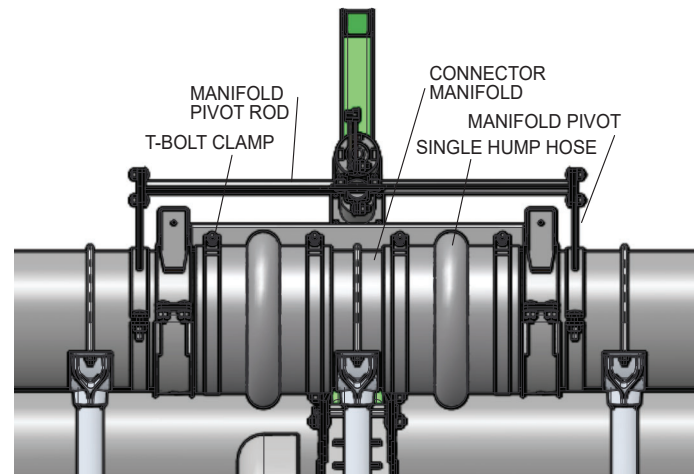
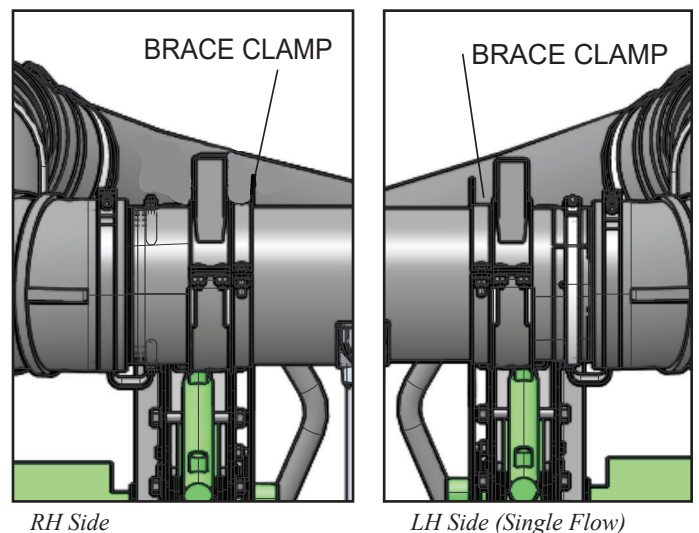
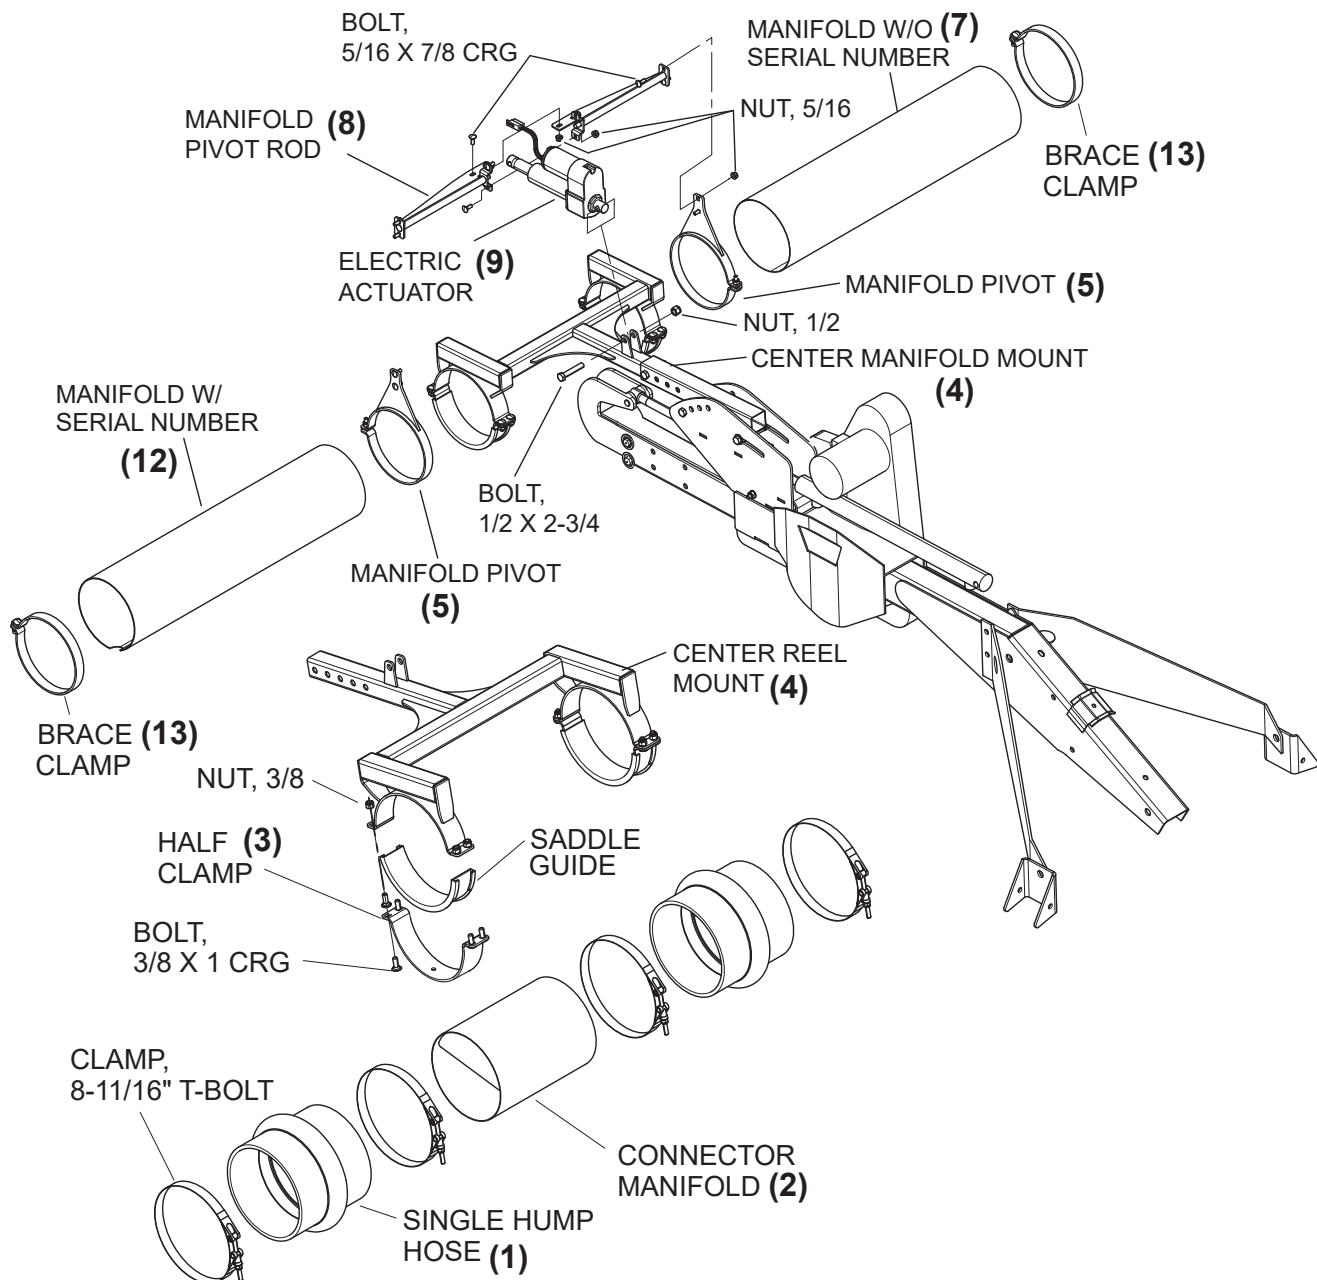

Figure 45: Manifold Assembly
Figure 46: Brace Clamps
Figure 48: Center manifold Assembly (FD1 & FD75 headers)
2. Loosely, install the half clamps (3) with 24 3/8" x 1" carriage bolts and nuts to all manifold mounts (4). (Figure 48)
3. Slide a manifold pivot (5) over the right end of the manifold with the serial number (12). Slide a manifold pivot (5) over the left end of the manifold without the serial number (7). (Figure 48)
4. Slide a brace clamp (13) over each end of the manifold. The brace clamps (13) should be positioned inside the reel mount assemblies (Figure 46). Slide the brace clamps (13) against the inside of the reel mount assemblies and tighten the clamps (13) on the manifold.
6. Slide a t-bolt clamp over each end of each single hump hose (1).
7. Slide the single hump hoses (1) onto each side of the connector manifold (2). Leave enough room in the middle of the connector manifold to install a drop tube. (Figure 45)
9. Adjust the manifold as necessary to center the manifold between the reel mount and align the drop tube holes. Tighten all t-bolt clamps and half clamp hardware (3) to the torque specifications on page 53.
10. Attach a manifold pivot rod (8) to each manifold pivot (5) using two 5/16 x 7/8 carriage bolt and nuts. (Figure 48).
11. Attach the base end of the electric actuator (9) to the center manifold mount (4) with a 1/2" x 2-3/4" bolt and nut.
12. Extend the actuator rod (9) all the way out (approx. 4 inches). This can be done by turning the actuator rod counter-clockwise or by energizing it.
13. Position the actuator rod (9) between the manifold
17. On single flow headers only, install end cap using 8-3/8" a T-bolt clamp on the LH of manifold (Figure 46).